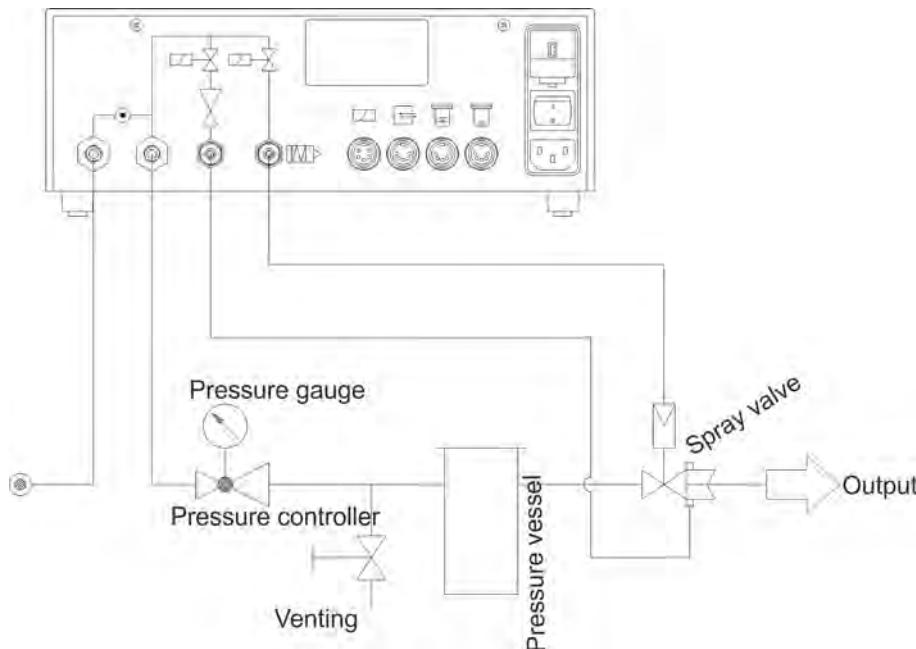

Fig. 1: Description of function
4.  Create compressed air connection (see Fig. 1).
5.  Close spraying air valve (see Fig. 1).